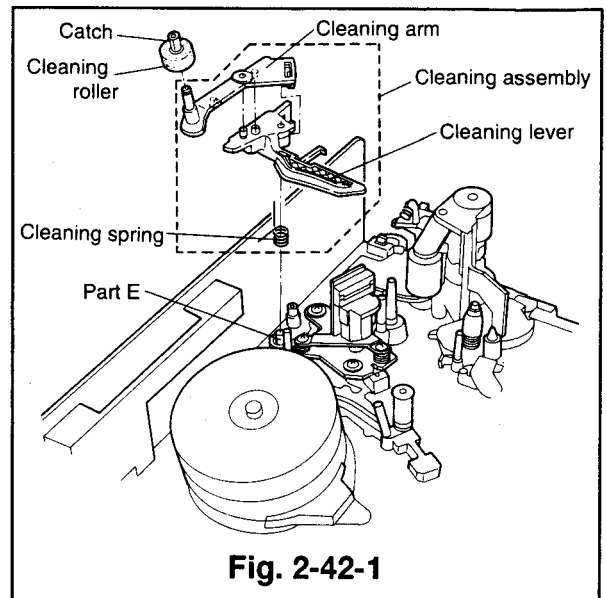
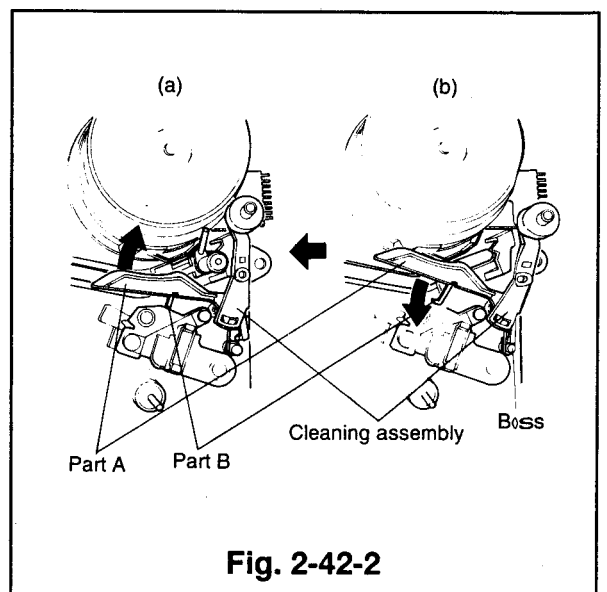
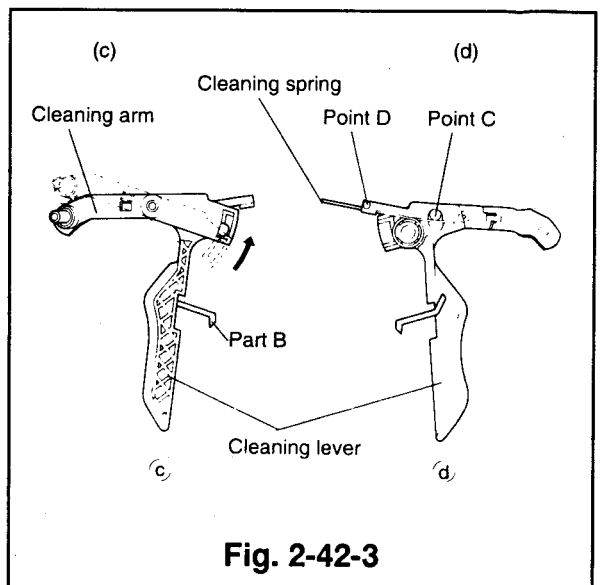

Fig. 2-42-1
Fig. 2-42-2
Fig. 2-42-3
- ① Remove the PCB-HEAD-AMP. (Refer to Para. 2-8 for the removal method.)
- ② Unfasten the catch to remove the cleaning roller. (Refer to Fig. 2-42-1)
- ③ Turn part A of the cleaning assembly clockwise as shown in Fig. 2-42-2 to release the catch part B Fig. 2-42-2 and Fig. 2-42-3(c). Release the catch part E and remove the cleaning assembly from the shaft.
- ④ Remove the cleaning spring to detach the cleaning arm and the cleaning lever.
- ① Attach the cleaning arm to the cleaning lever and turn it clockwise as shown in Fig. 2-42-3(c). Make sure that the cleaning arm and the cleaning lever turn without binding.
- ② Hook one end of the cleaning spring with the boss (point C), projecting from the cleaning arm, and the other end to point D of the cleaning lever as shown in Fig. 2-42-3(d).
- ③ Place the cleaning assembly in the position shown in Fig. 2-42-1, and in the direction shown in Fig. 2-42-2(b). Turn the part A, shown in Fig. 2-42-2, counterclockwise to set the part B under the A/C plate of the A/C head assembly. Make sure that the spring hooks with the boss of the main plate shown in Fig. 2-42-2. Shift the part A in the direction shown by the arrow and release to make sure that it returns.
- ④ Insert the cleaning roller into the position shown in Fig. 2-42-1 to install it.